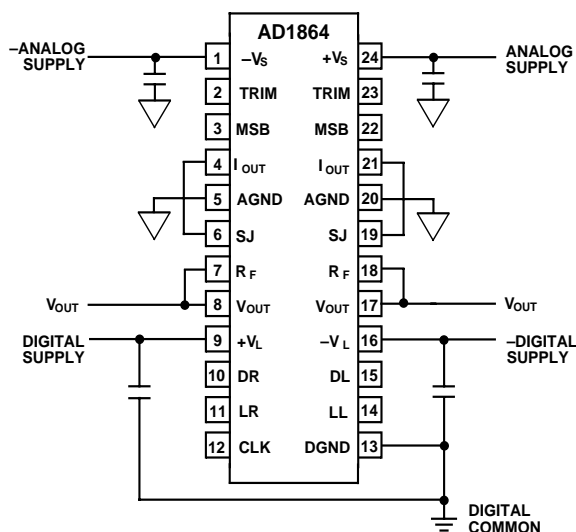

Figure 7. Recommended DIP Circuit Schematic
The AD1864 has three ground pins, two labeled AGND and one labeled DGND. AGND, the analog ground pins, are the “high quality” ground references for the device. To minimize distortion and reduce crosstalk between channels, the analog ground pins should be connected together only at the analog common point in the system. As shown in Figure 7, the AGND pins should *not* be connected at the chip.
**VOLTAGE OUTPUT MODES** As shown in the AD1864 block diagram, each channel of the AD1864 is complete with an I-V converter and a feedback resistor. These can be connected externally to provide direct voltage output from one or both AD1864 channels. Figure 7 shows these connections.  $I_{OUT}$  is connected to the summing junction, SJ.  $V_{OUT}$  is connected to the feedback resistor,  $R_F$ . This implementation results in the